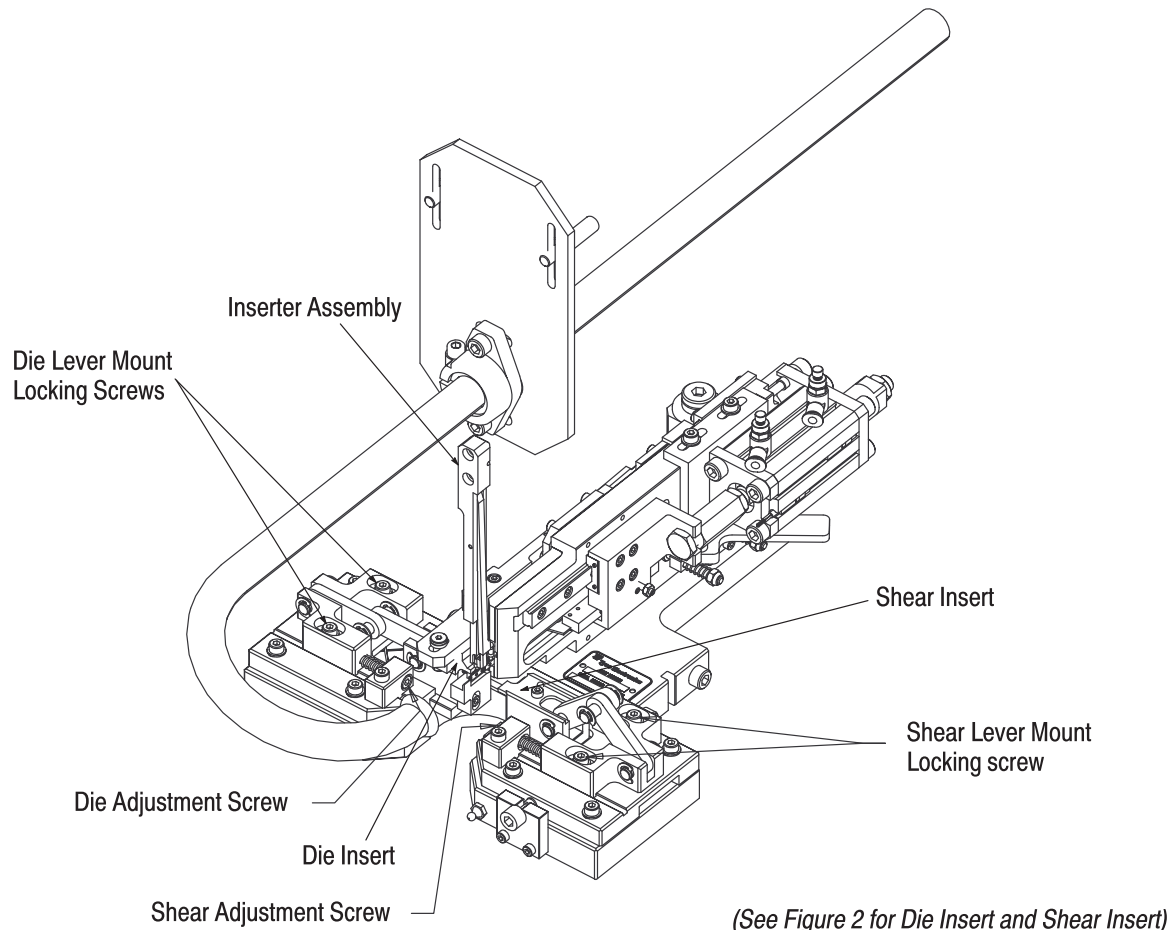

Figure 17
5.7. Die Travel Adjustment (See Figure 17)
5.8. Shear Travel Adjustment (See Figure 17)
5.10. Lower Tooling Tip Height Adjustment (See Figure 17)**NOTE**